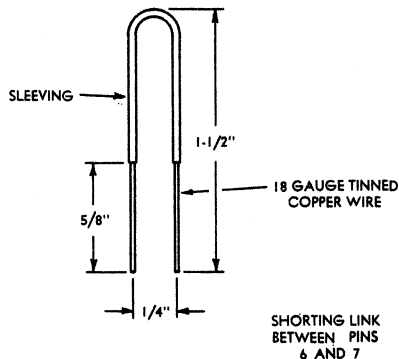

Figure 1
- 60MHz—160MHz; See figure 1 for details.